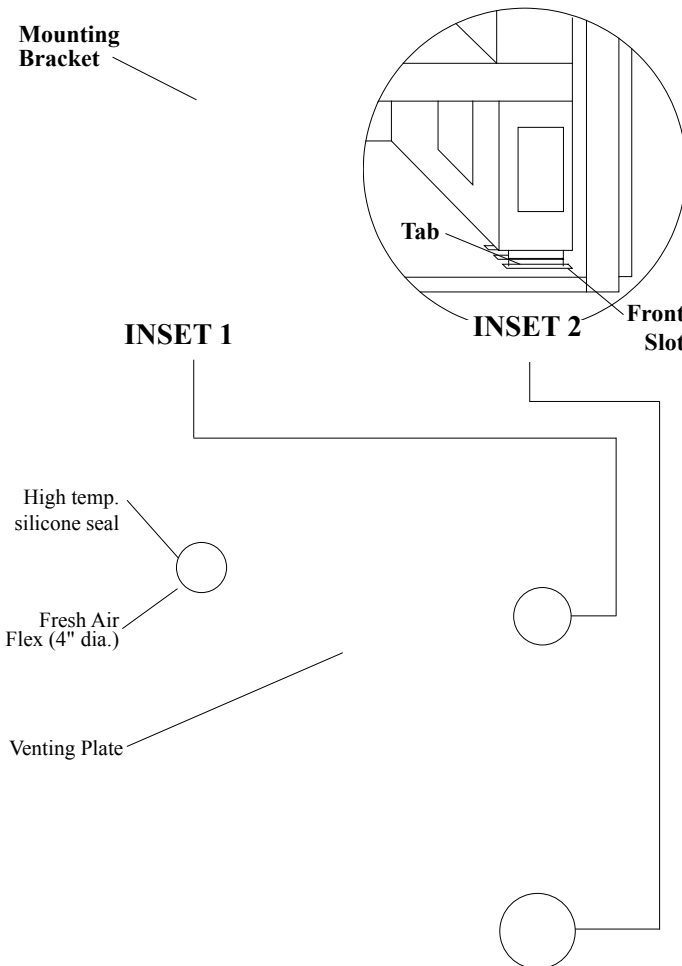

Figure 25. MD34-DV insert.
2. Remove the fresh air flex from the collars on the shell. *See Figure 25. Important: Be careful not to damage the fresh air flex during removal or storage.*